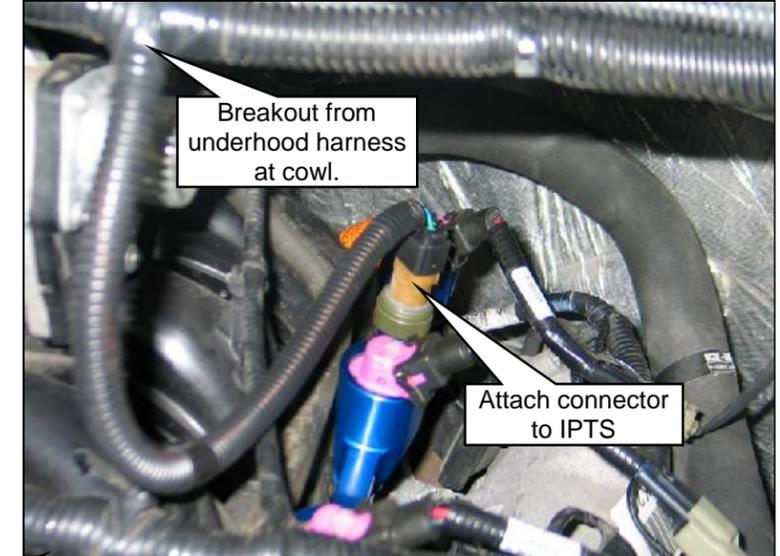

Figure 15.3
10. Route the harness breakout with the integrated pressure temperature sensor (IPTS) connector (on right fuel rail) along the top left of the engine. Attach the breakout harness connector to the sensor. **Figure 15.3.**
13. Reposition the battery tray, install the five bolts and tighten to secure. Install the fender bolt to secure both the top of the battery tray and the rear end of the SRM bracket. Tighten the bolt to 18–21 Nm. **Figure 15.3.**